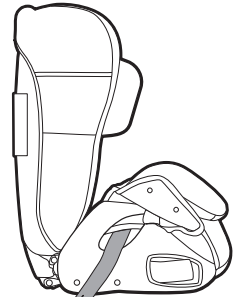

Figure 2
- Step 2:** Fold the armrest covers forward to expose the plastic armrests (refer Figure 2).